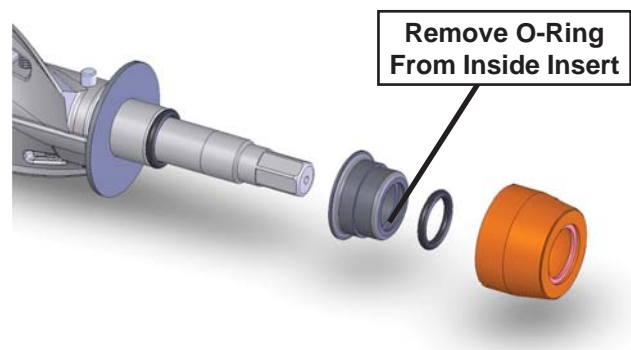

Figure 3-5 Rear Seal Assembly
4. Wipe spline lubricant off of the hex end of the auger with a paper towel. Remove the rear seal assembly (Fig. 3-5).